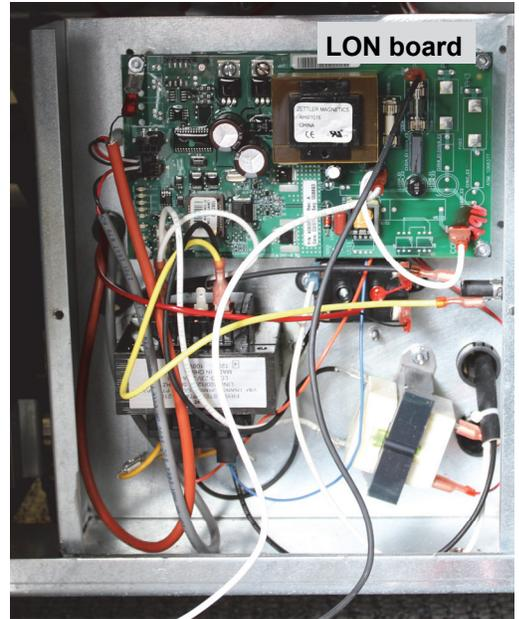

Figure 1: The LON board is in the ATO box behind the JIB.
4. Locate LON board. **See Figure 1.**